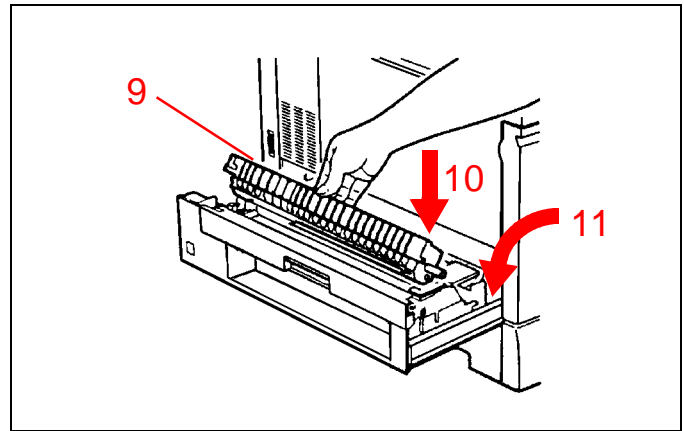

Figure 37
9. See Figure 37. Tilt the cartridge in toward the printer and align the green label and arrow at the left end of the fuser oil cartridge with the green label on the housing.